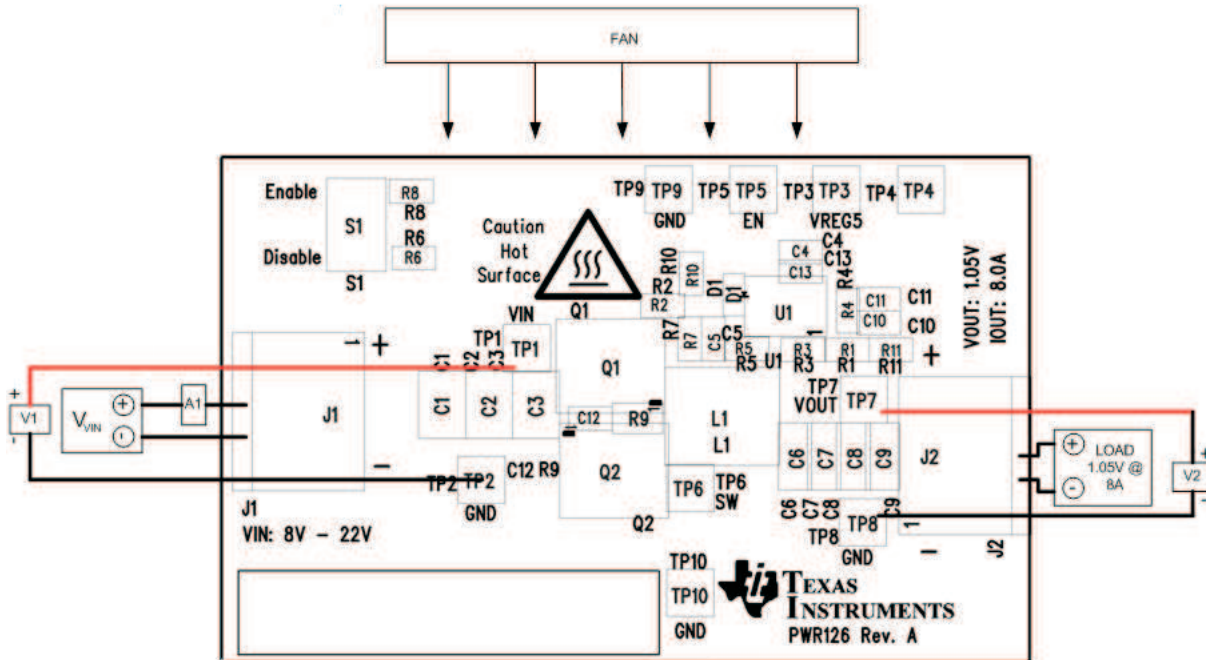

Figure 3. TPS53015EVM-126 Recommended Test Set Up
- **VIN:** The input voltage source VIN should be a 0-V to 30-V variable DC source capable of supplying 2 ADC. Connect VIN to J1 as shown in Figure 3.
Figure 3 is the recommended test set up to evaluate the TPS53015EVM-126. Working at an ESD workstation, make sure that any wrist straps, bootstraps or mats are connected referencing the user to earth ground before power is applied to the EVM.
- Prior to connecting the DC input source  $V_{IN}$ , it is advisable to limit the source current from  $V_{IN}$  to 2 A maximum. Make sure  $V_{IN}$  is initially set to 0 V and connected to J2 as shown in Figure 3.
**Other Connections:** Place a fan as shown in Figure 3 and turn on, making sure air is flowing across the EVM.
1. Set up EVM as described in Section 5 and Figure 3.